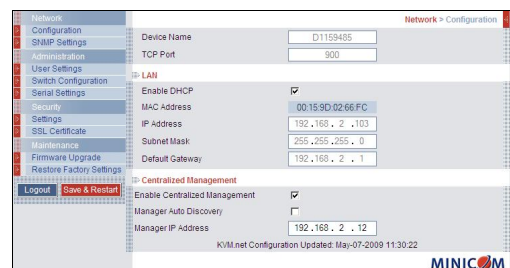

Figure 11 Configuration page
5. Press **Enter**. The Web interface opens at the Network Configuration page. See Figure 11.